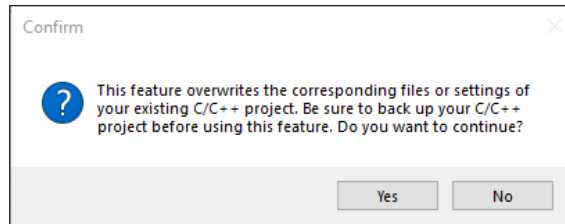

Figure 3.28. Update System and BSP Confirm Dialog
7. Click **Yes** (Figure 3.28).